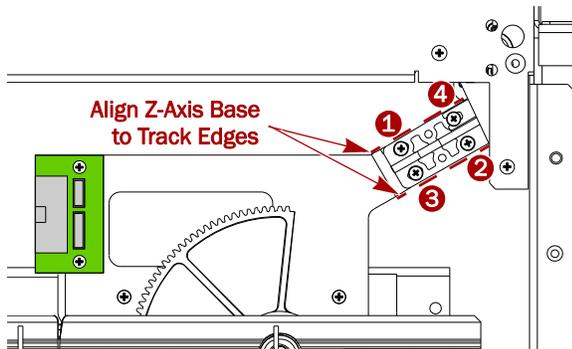
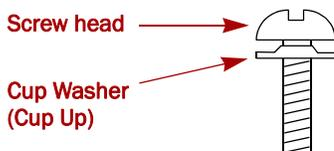

Figure 9. Align Rear Z-Axis Bracket & Tighten Screws in Order
Figure 10. Screw and Cup Washer Assembly
- b. Align both sides of the rear Z-Axis base to the **edges** of the track plate (Figure 9).
- c. Using **four new M3x20mm screws** and **M3 cup washers**, secure the rear Z-Axis to the track plate using around 6 lbs of torque. Tighten the screws in the order shown in Figure 9. Be sure the cup washer is positioned correctly (Figure 10).